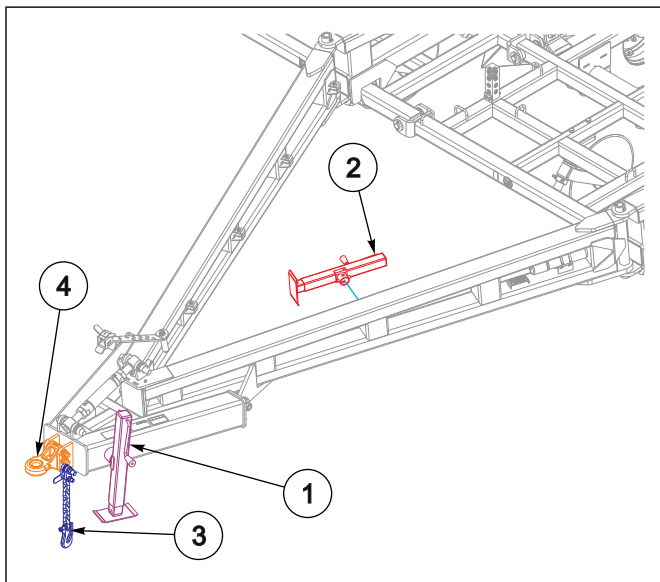

Figure 4-1: Jack Storage
1. Align the tractor drawbar with the machine. Raise or lower the Blade Plow ring hitch (4), as needed, using the swivel jack (1) **See Figure 4-1**. Attach the unit with proper size hitch pin.
2. Always place the swivel jack (2) on the interior mount before setting the machine in motion.
5. Attach safety chain (3) to tractor allowing plenty of movement for turning both directions **See Figure 4-1**. The safety chain should latch securely to prevent it coming loose.